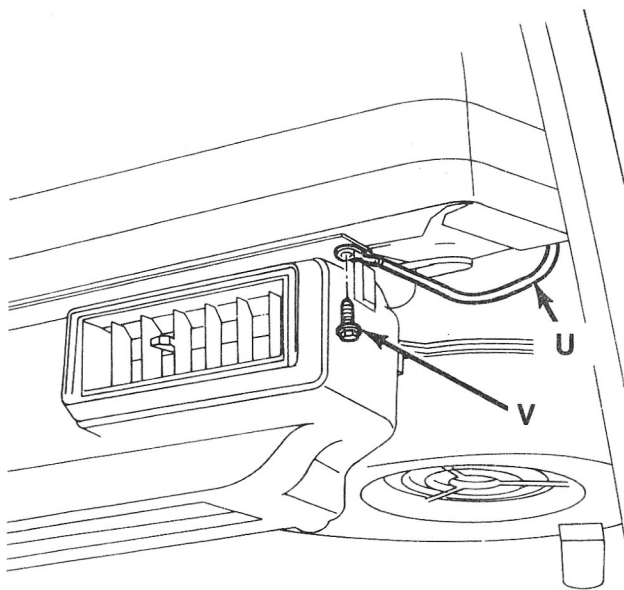

Fig. 17
25. Attach the ground wire (U) with mounting screw (V) (Fig. 17).